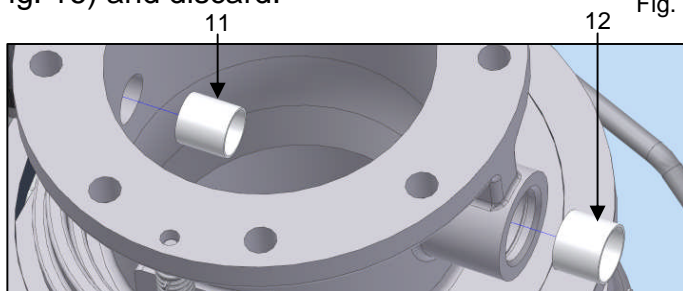

Fig. 16
14. Remove Top Bearing (12) and Bottom Bearing (11) (Fig. 16) and discard.